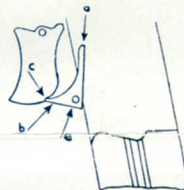
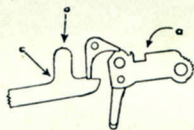

FIGURE 5
FIGURE 6
2.—The pistol also has a magazine safety, which guarantees additional safety of the arm when a live round is in the chamber, thus permitting firing of the cartridge only when the magazine is replaced. In effect, (Figure 4), the magazine, when in place, maintains the piece «a» in such a position that no part of it obstructs the trigger. However, when the magazine is removed (Figure 5), the piece «a», through the action of its self-contained spring, engages a notch in the trigger, thus preventing any movement of the trigger and discharge of the gun. Because of the contact between the sear and the hammer, the pistol, when loaded and with the hammer cocked, cannot be discharged involuntarily. The pistol in this way is secure and safe and even if the hammer accidentally releases while cocking there is little risk that the pistol will fire. To fire the pistol it is necessary that the trigger actually be pulled, requiring voluntary action to do so. In effect, when the hammer is cocked (Figure 6), it is drawn back on its axis from position I to position II, at the same time, the sear, mov-